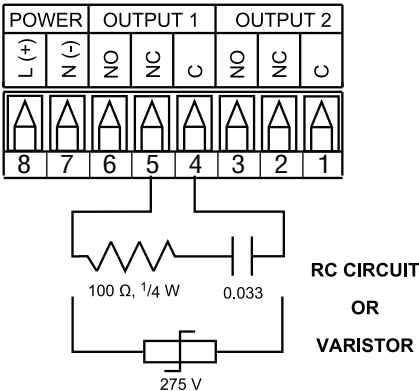

Figure 2.9 Snubber Circuit Wiring Hookup
If you have an inductive load connected between Common (C) and Normally Closed (NC) contacts of the mechanical relays and you want to protect them from the rush current during the switching period, you have to connect an external snubber circuit between Common (C) and Normally Closed (NC) contacts as indicated in Figure 2.9.